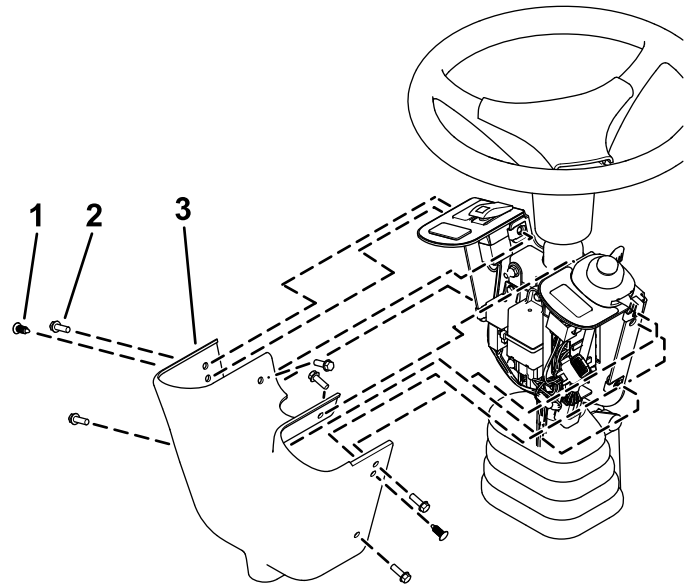

Figure 12
13. Install the control cover to the switch mount using 2 push rivets and 6 hex-head screws (1/4 x 3/4 inch) as shown in Figure 12.